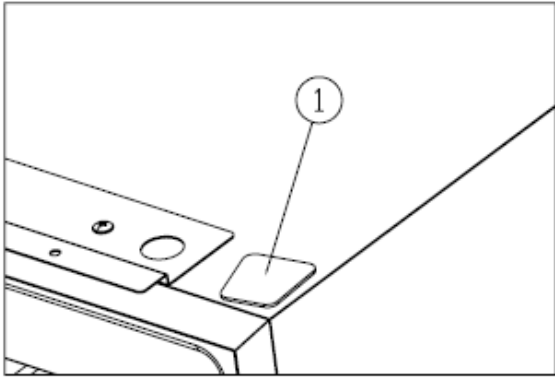

Figure 4
✧ Install the germinal lid①.[Figure 4]